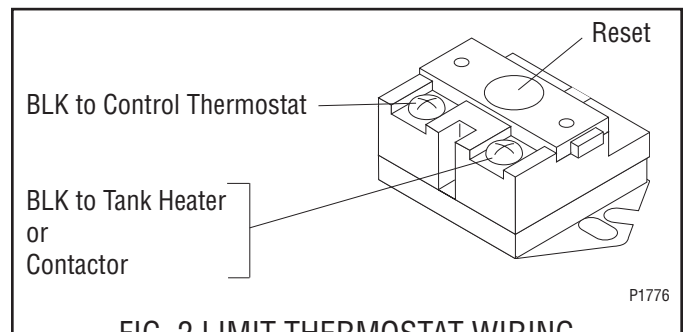

FIG. 2 LIMIT THERMOSTAT WIRING
4. Refer to FIG. 2 when reconnecting the wires.